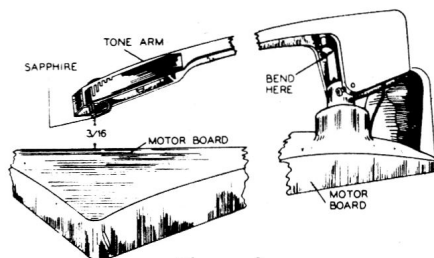

Figure 3
3. Bend portion of the tone arm bracket so that the sapphire is $\frac{3}{16}$ inches above the flat surface of the motorboard. (Figure 3.)